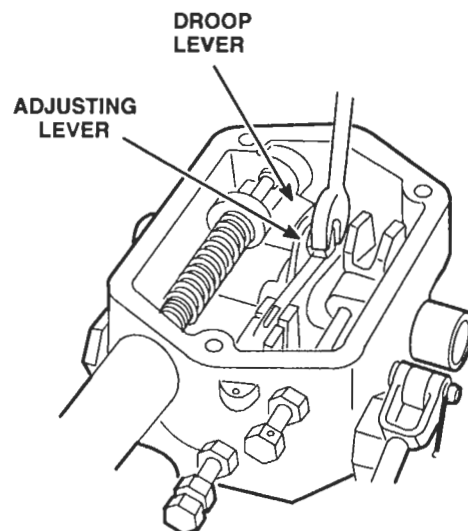

Figure 4. Adjusting Speed Drop
4. Loosen the droop (Figure 4.) adjusting bolt. Move the bracket so that the bolt is midway between the ends of the slot in the bracket. Tighten the bolt. Be sure the bracket remains on the shoulder of the terminal lever.